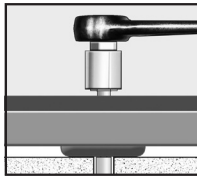

Figure 7
7. Secure the Hex Head Bolt tightly using a socket wrench (Figure 7).